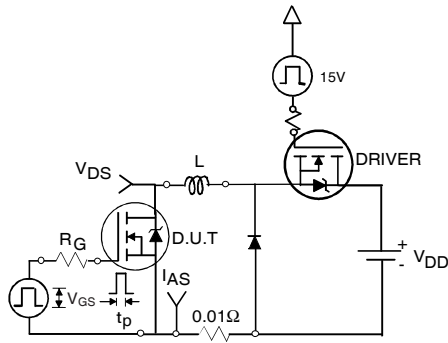

Fig 12a. Unclamped Inductive Test Circuit
3. Equation below based on circuit and waveforms shown in Figures 12a, 12b.
- ③ Pulse width $\leq 1.0\text{ms}$; duty cycle $\leq 2\%$.
- ④ C_{OSS} eff. is a fixed capacitance that gives the same charging time as C_{OSS} while V_{DS} is rising from 0 to 80% V_{DSS} .
- ⑤ Limited by T_{Jmax} , see Fig.12a, 12b, 15, 16 for typical repetitive avalanche performance.
- ⑥ This value determined from sample failure population. 100% tested to this value in production.
- ⑦ When mounted on 1" square PCB (FR-4 or G-10 Material). For recommended footprint and soldering techniques refer to application note #AN-994
- ⑧ R_θ is measured at T_J approximately 90°C